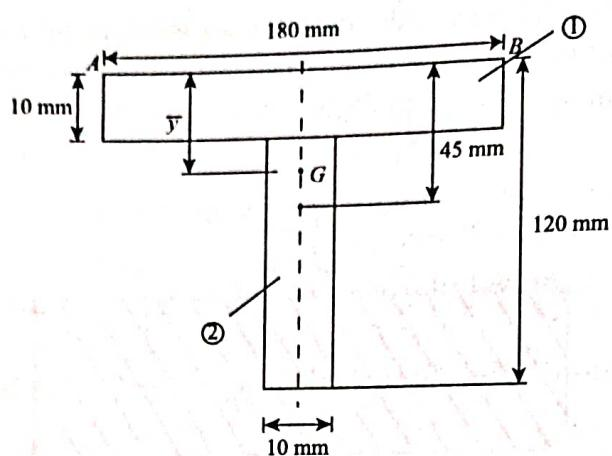

Figure 9.21
**EXAMPLE 9.13:** A mild steel *T* section as shown in Fig. 9.21 carries a load of 100 kN in the central plane bisecting the web at 45 mm from the base. Determine the maximum and minimum stresses induced in the section.